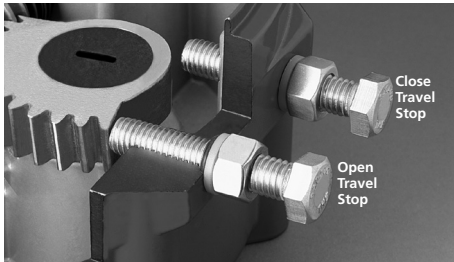

Figure 6. Mechanical Travel Stops (CW Close).
- 6.3.2 Mechanical travel stops are located outside the actuator base for easy readjustment. Stainless steel lock nuts with O-ring seals hold the travel stops securely in place as shown in Figure 6.